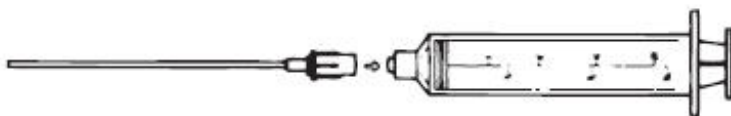

Figure 3. Assemble syringe and Filter Straw® tube
3. Assemble the syringe and Filter Straw® tube (Figure 3), making sure the syringe/tube connection is snug to avoid leakage.